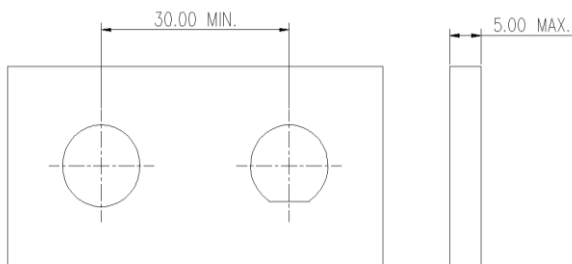

Figure 14
- ✧ 请确保墙板的厚度最大不超过 5mm, 无论水平或垂直结构，钻孔间隙至少要有 30mm (如图 14)
Please ensure the thickness of housing wall not more than 5 mm, for both horizontal and vertical mounting, the space of drilled hole is recommended at least 30 mm. (Fig.14)